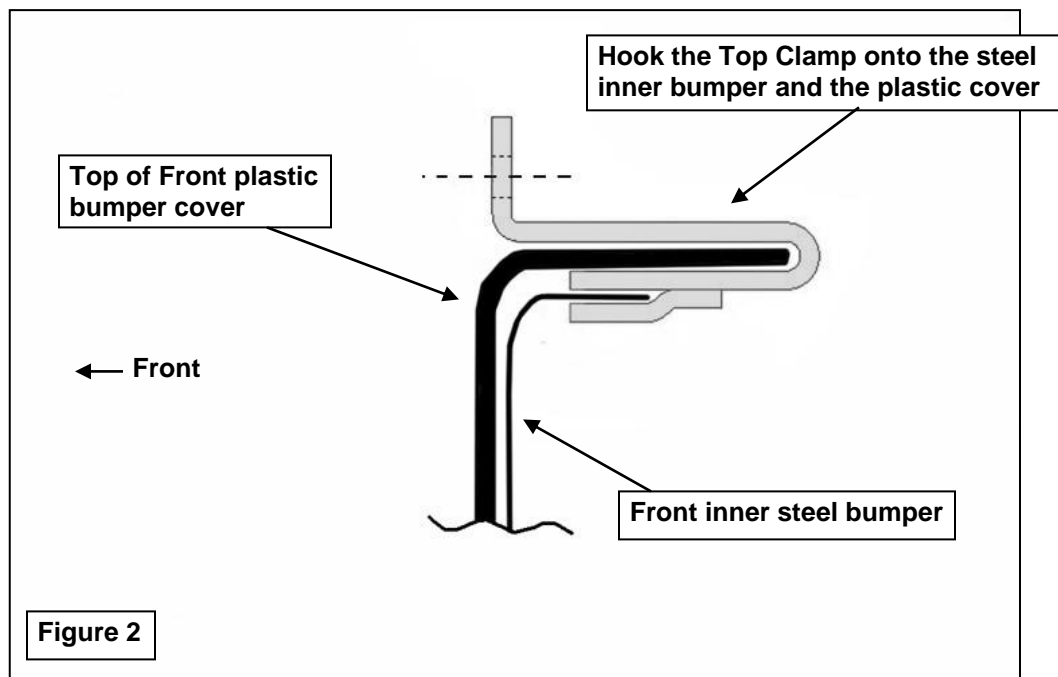

Figure 2
3. Select the (2) Top Clamp Brackets. Slide the smaller slot on the bottom of the Clamp over the edge of the steel bumper. Slide the plastic cover into the middle slot in the Clamp. Line up the center of each Top Clamp on the marks in Step 2, (**Figure 2-inset**).
4. Next, from under the front of the vehicle, remove the driver side factory body bolt. Select (1) Bottom Mounting Bracket and Spacer. Insert (1) 12mm x 120mm Hex Bolt, (1) 12mm Lock Washer and (1) 12mm Flat Washer through the Bottom Mounting Bracket and Spacer and into the bottom of the body mount, (**Figure 2**). Snug but do not fully tighten the hardware at this time.
6. With assistance, lift the Grille Guard up to the vehicle and line up the (2) Top mounting tabs on the Grille Guard with the (2) Top Clamp Brackets. **NOTE:** The Grille Guard is shipped with (2) Edge Covers to protect the front bumper from damage. These are installed at the factory but may come loose in shipping, (**Figure 2**). Please reinstall before continuing with installation.
7. Bolt the Grille Guard to the Top Clamp Brackets with (2) 10mm x 40mm Hex Bolts, (4) 10mm x 20mm STD Flat Washers, (2) 10mm Lock Washers and (2) 10mm Hex Nuts. Snug both Hex Bolts evenly but do not fully tighten hardware at this time.
8. Carefully slide the Grille Guard side to side to center on the vehicle. Loosen Top Clamp hardware if necessary. Once the Grille Guard is properly centered, make sure that the bottom tabs on the grille guard are against the lower bumper cover. Mark the location of the (2) mounting holes in the tabs onto the bumper cover. **IMPORTANT:** Before drilling, verify that the Bottom Brackets line up with the back of the air dam and the lower tabs on the grille guard.
9. Temporarily remove the Grille Guard. Drill (2) 7/16" holes through the cover in line with the bottom mounting tabs. Reinstall the Grille Guard as described in Steps 5 & 6.
10. Line up the Bottom Mounting Brackets with the tabs on the Grille Guard and the 7/16" holes drilled in Step 9. Bolt the Grille Guard to the Bottom Brackets with (2) 10mm x 30mm Hex Bolts, (4) 10mm x 30mm Large Flat Washers, (2) 10mm Lock Washers and (2) 10mm Hex Nuts, (**Figure 2**). Snug both Hex Bolts but do not fully tighten hardware at this time.
12. Stand back from the vehicle and check to see that the Grille Guard is centered and level on the vehicle and adjust as necessary. Once properly aligned, tighten all hardware. **NOTE:** Tighten the (4) 10mm Hex Bolts evenly to pull the Grill Guard straight and flat against the front bumper. Remove any protective tape used during installation.